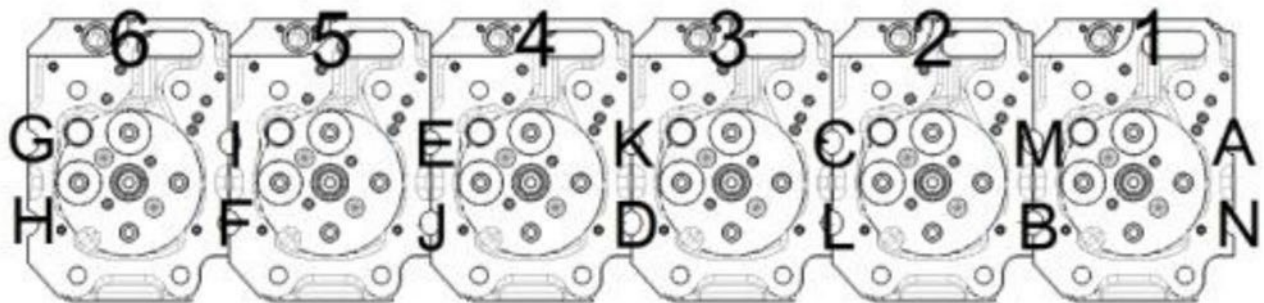

Figure 84. Secondary Bolt Torquing Order
5. Tighten the secondary bolts in order (Figure 84) A through N to 59 ft/lbs.